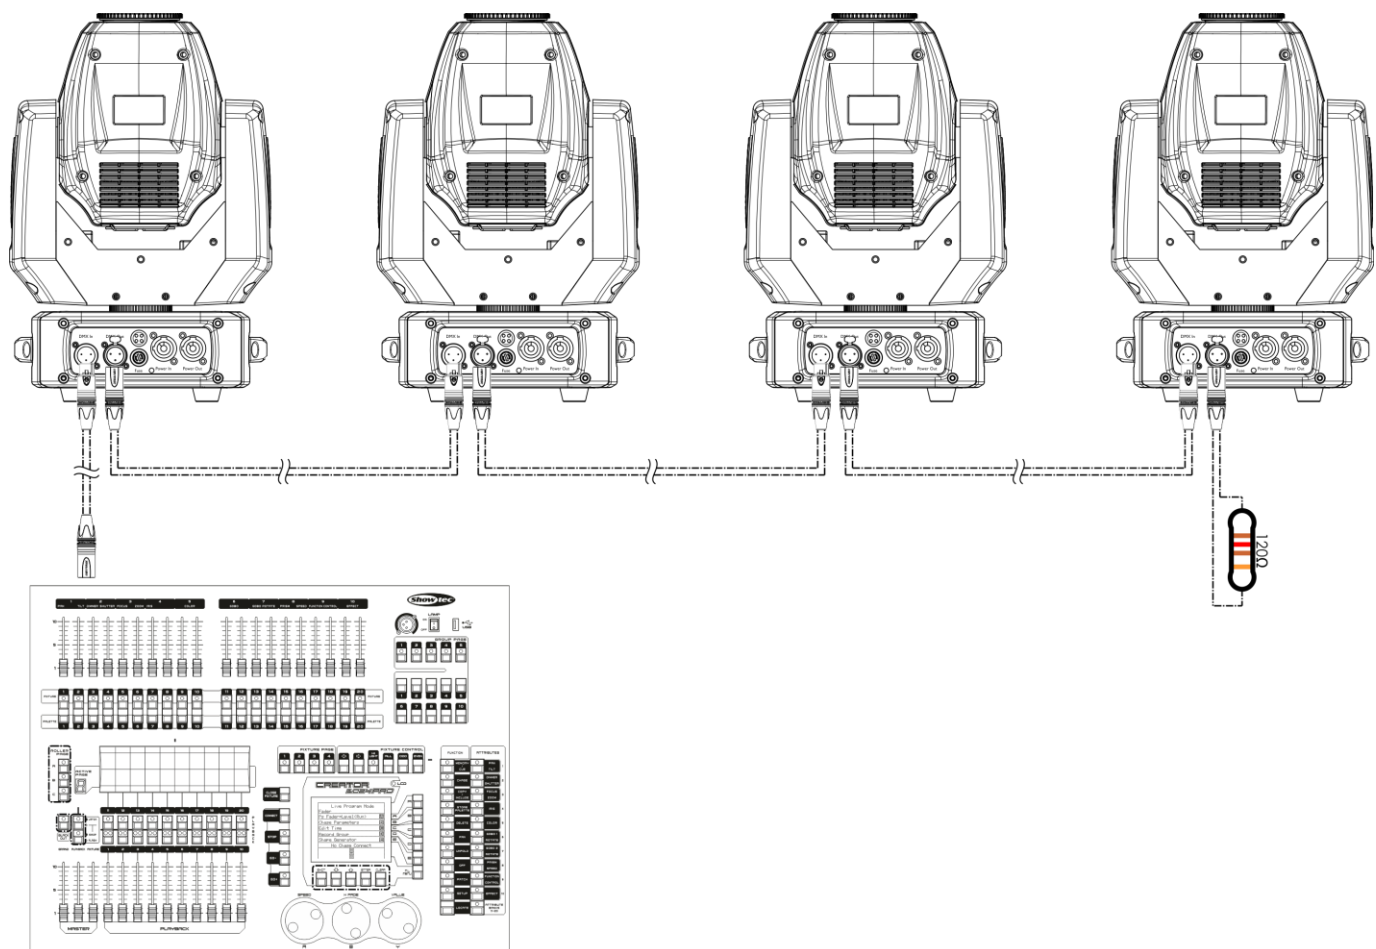

Fig. 04
- 04) Link the units as shown in fig. 04. Connect the first unit's DMX "out" socket with the second unit's "in" socket, using a DMX signal cable. Repeat this process to link the second, third, and fourth units.